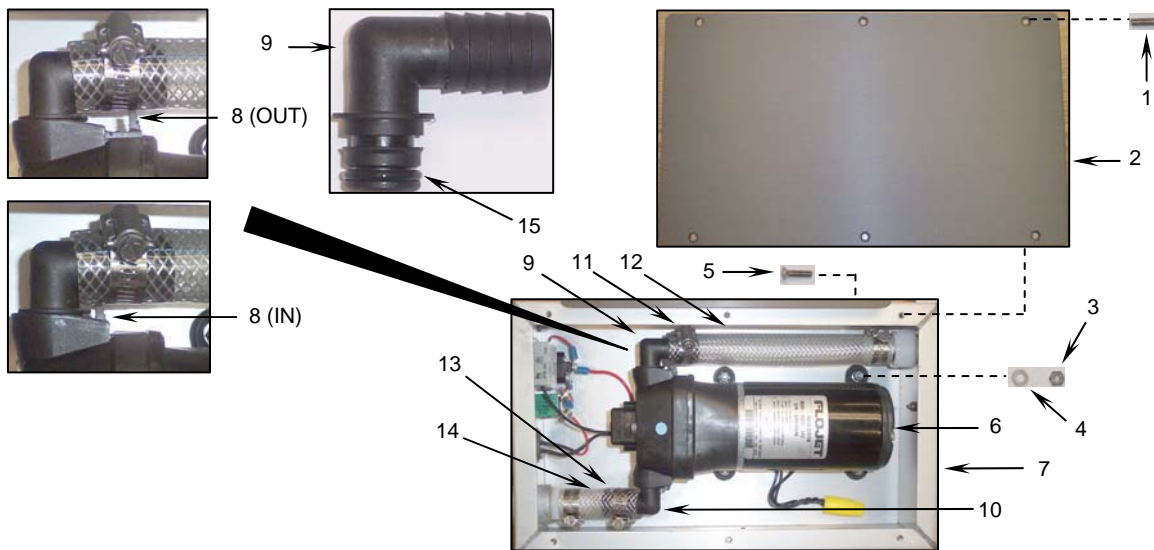

Figure 3. Removing the Sink Fill Pump Assembly Quick Disconnect Elbows.
- a. Remove the six flat head machine screws (**Figure 3, Item 1**) from the fill pump cover (**Figure 3, Item 2**).
- b. Remove the cover (**Figure 3, Item 2**).
- a. Remove the four self-locking nuts (**Figure 3, Item 3**), four flat washers (**Figure 3, Item 4**), and four flat head machine screws (**Figure 3, Item 5**) that secure the pump (**Figure 3, Item 6**) to the sink fill pump assembly enclosure (**Figure 3, Item 7**).
- b. Slide out the pump suction elbow retaining tab (**Figure 3, Item 8**) and pull the suction elbow (**Figure 3, Item 9**) out of the pump. Remove the pump discharge elbow (**Figure 3, Item 10**) the same way.
- c. Loosen the hose clamp (**Figure 3, Item 11**) at the pump suction elbow (**Figure 3, Item 9**) and work the elbow off the suction tube (**Figure 3, Item 12**).
- d. Loosen the hose clamp (**Figure 3, Item 13**) at the pump discharge elbow (**Figure 3, Item 10**) and work the elbow off the discharge tube (**Figure 3, Item 14**).
5. Inspect the suction tube (**Figure 3, Item 12**) and discharge tube (**Figure 3, Item 14**) for damage or deterioration. Replace the suction and discharge tubing if they are damaged or deteriorated (see WP 0025 00).